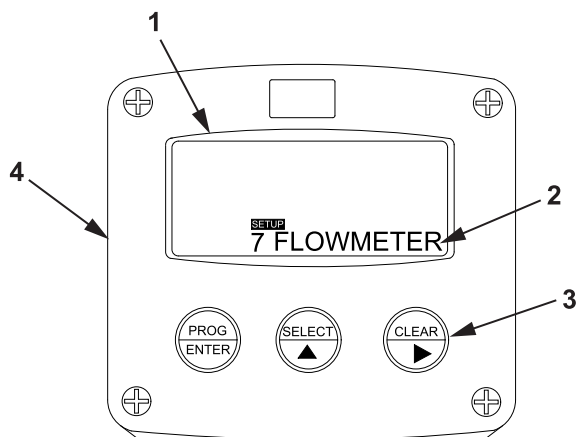

Figure 36. FLOWMETER Display.
- f. Verify that FLOWMETER (Figure 36, Item 2) appears on the display screen (Figure 36, Item 1).
- g. Press the CLEAR key (Figure 36, Item 3) on the tank volume meter monitor (Figure 36, Item 4).